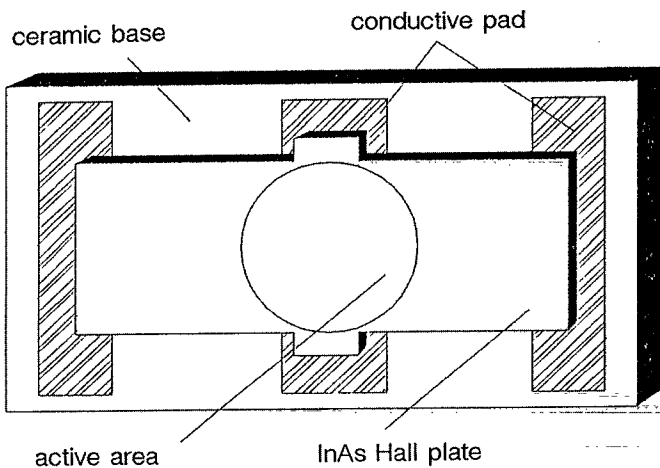

FIGURE 4. Typical Hall sensor construction.
Modern Hall-effect devices, commonly called *Hall generators*, consist of a thin, rectangular or square sheet of Si, GaAs or InAs, to which four contacts are made (Figure 4). This is commonly called a Hall plate. Often the plate is affixed to a ceramic substrate which provides improved mechanical support and thermal stability, or wire-bonded to a nonmagnetic lead frame and encapsulated. Sensitivity is greatest when the angle between the plate and the flux lines is 90°. One particularly useful aspect of a Hall device is its sensitivity to the *direction* of flux travel, allowing for accurate sensing of both bipolar static (DC) and alternating (AC) magnetic fields.